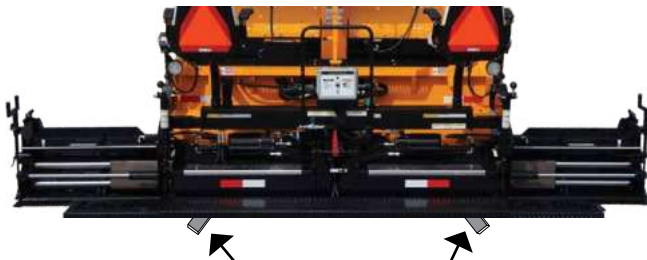

Figure 4-47. Starter Blocks Location
3. To set the depth, you can place small starter blocks (Figure 4-47)